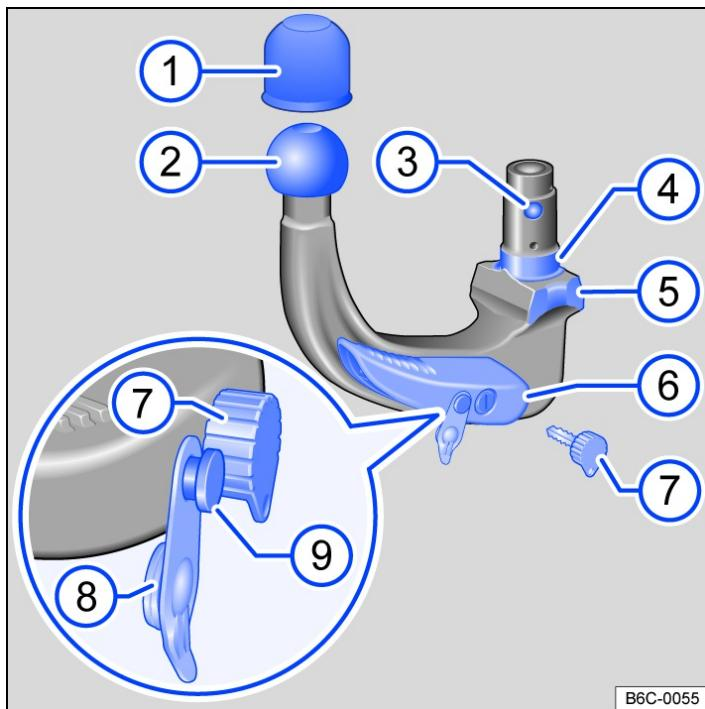

Fig. 1 Overview: removable ball head.
- If the smallest diameter on the ball head → Fig. 1 3 is smaller than 49 mm, do not use the towing bracket.
- Remove the lock cap → Fig. 1 8 from the lock in the locking lever and insert the key 7 into the lock.
- Turn the key 7 anti-clockwise until the part of the key with the hole is at the top.